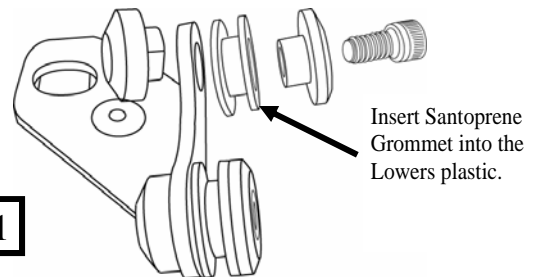

Figure 1
**2. Attach the lowers plastic to the lowers mounting plates using the pre-assembled bolts. The Santoprene grommets should be inserted through the holes in the lowers plastic so that the flat round part of the grommet lies flat on each side of the lowers plastic. (see Figure 1)**